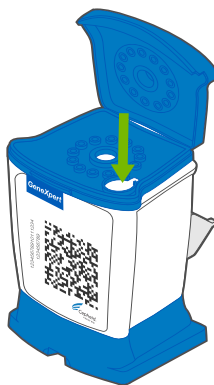

Figure 1. Xpert Factor II & Factor V Cartridge
3. Open the cartridge lid. Using a pipette with an aerosol resistant tip, transfer 50 µL of sodium citrate or EDTA anticoagulated blood to the bottom wall of the Sample opening of the Xpert Factor II & Factor V test cartridge. See Figure 1.